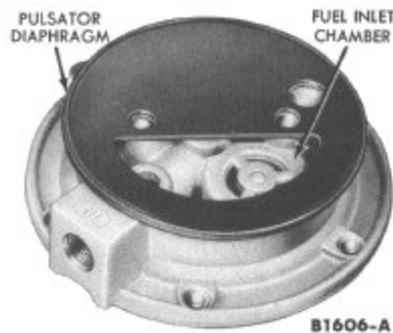

FIG. 39—Pulsator Diaphragm Installation
5. Place a new pulsator diaphragm on the valve housing in the position previously noted on disassembly (opening in the diaphragm over the fuel inlet valve(s) as shown in Fig. 39). Position the cover on the valve housing, aligning the scribed lines on the cover with the line on the